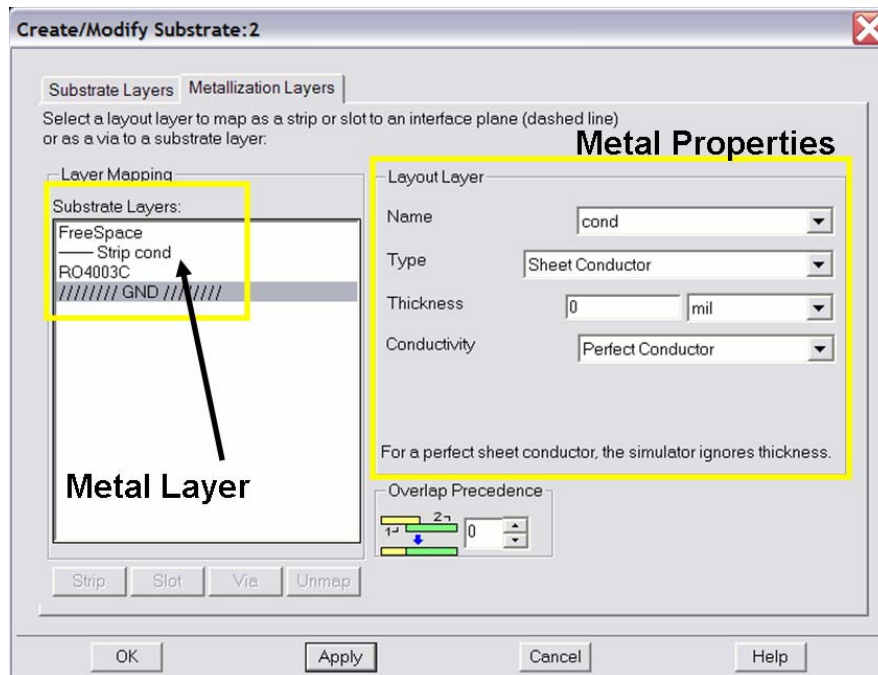

Figure 3.
5. While the Create/Modify window is still open, move to the “Metalization Layers” tab. In this window you can change the properties of metallic layers and assign different metal layers to the appropriate surfaces. This is shown in Figure 3. On the right hand side of the menu, you can choose the metal layers and change their properties. In this case, we are going to use only one conductor layer “cond” and for the time being, we will consider it to be a perfect electric conductor (PEC). You can change these settings later on. On the left hand side of the menu, you will see the three substrate layers GND, RO4003C, and FreeSpace. Notice that there is layer represented with a horizontal bar “___” between RO4003C and FreeSpace layers. You can select this layer by clicking on it. After selecting this layer, click on the “Strip” button and the layer will be assigned as a strip conductor. This means that everything drawn on this layer is considered a metallic strip. If we had chosen the “slot” option, the layer would have been assigned as a slot layer. This means that everything drawn on this layer would have been considered as an aperture in an infinite ground plane; this option is useful in simulating slot antennas or aperture coupled microstrip antennas. After assigning the appropriate metallic layers, click OK and the definition is complete.